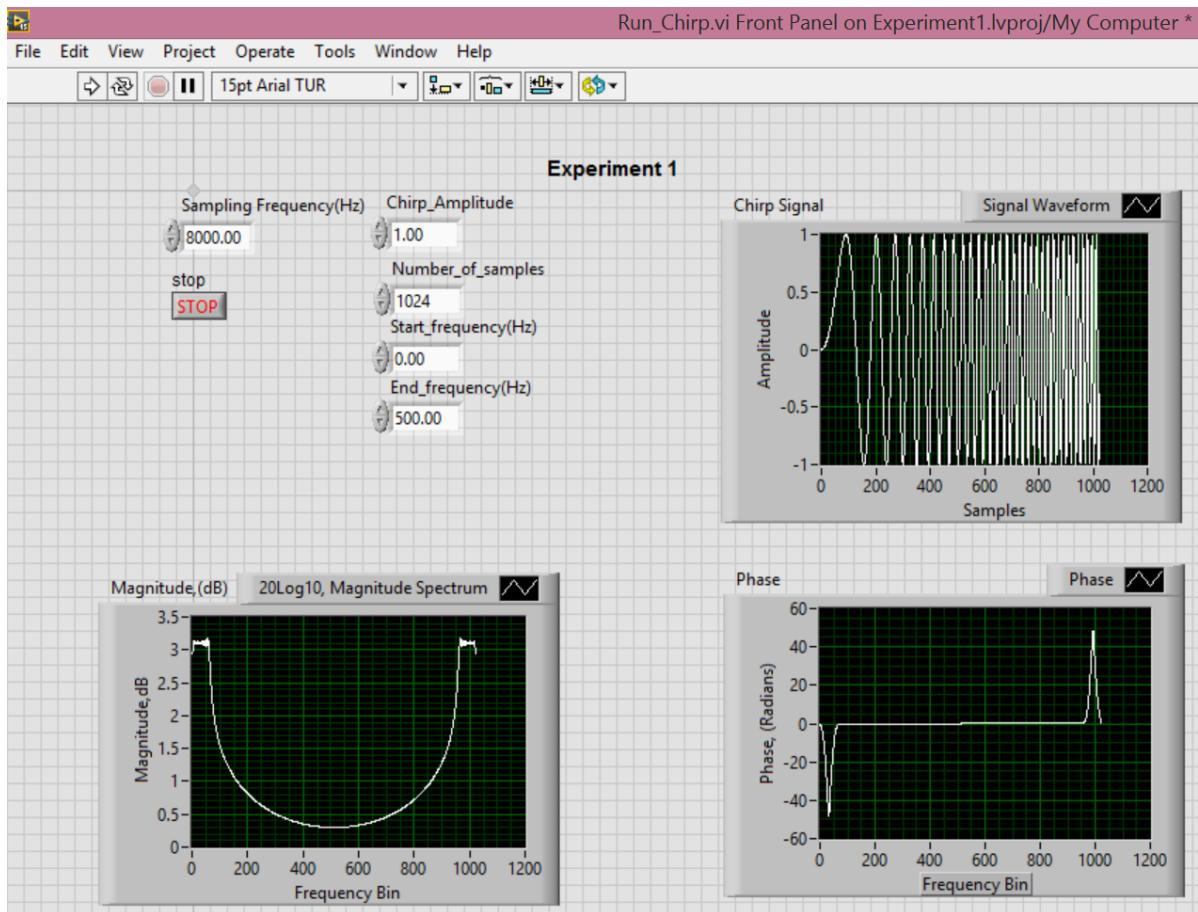

Fig. 15. Run_Chirp.vi Front Panel
In this part, you are required to **design Run_Chirp.vi** whose function is to generate a **chirp** waveform with a given parameter set and display its time and frequency characteristics. The **input parameters** are **sampling frequency**, **chirp amplitude**, **number of samples**, **start frequency**, and **end frequency**. There are three displays for **time waveform**, **magnitude spectrum** and **phase spectrum** respectively. The Front Panel for this VI is shown in Fig. 15. Note that in this case you cannot use Simulate Signal function since it has no chirp waveform. In order to generate chirp, you need to use the **Chirp Pattern.vi** function in the Block Diagram functions menu.
a) Decrease the sampling rate gradually to a level at which you would not observe the chirp waveform characteristics given in Fig. 15. Note this value in your report. Can you identify a general rule for the minimum sampling rate?